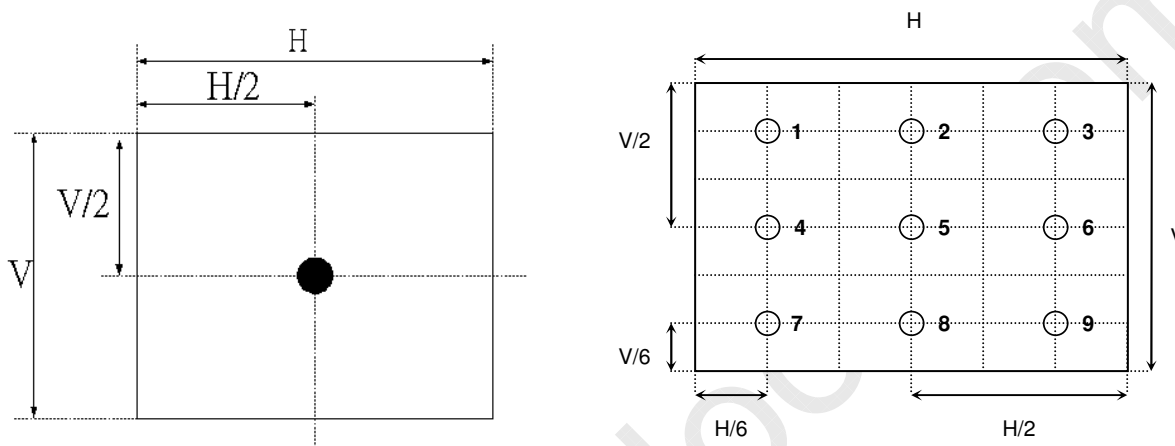

Fig.4-2 Optical measurement point
2. Surface Luminance is luminance value at point 5 with 100% dimming across the LCD surface 50cm from the surface with all pixels displaying white. For more information see Fig. 4-2. When lamp current  $I_L=7.6\text{mA}$ ,  $L_{WH}=L_{on5}$ , where  $L_{on5}$  is the luminance with all pixels displaying white at center 5 location.